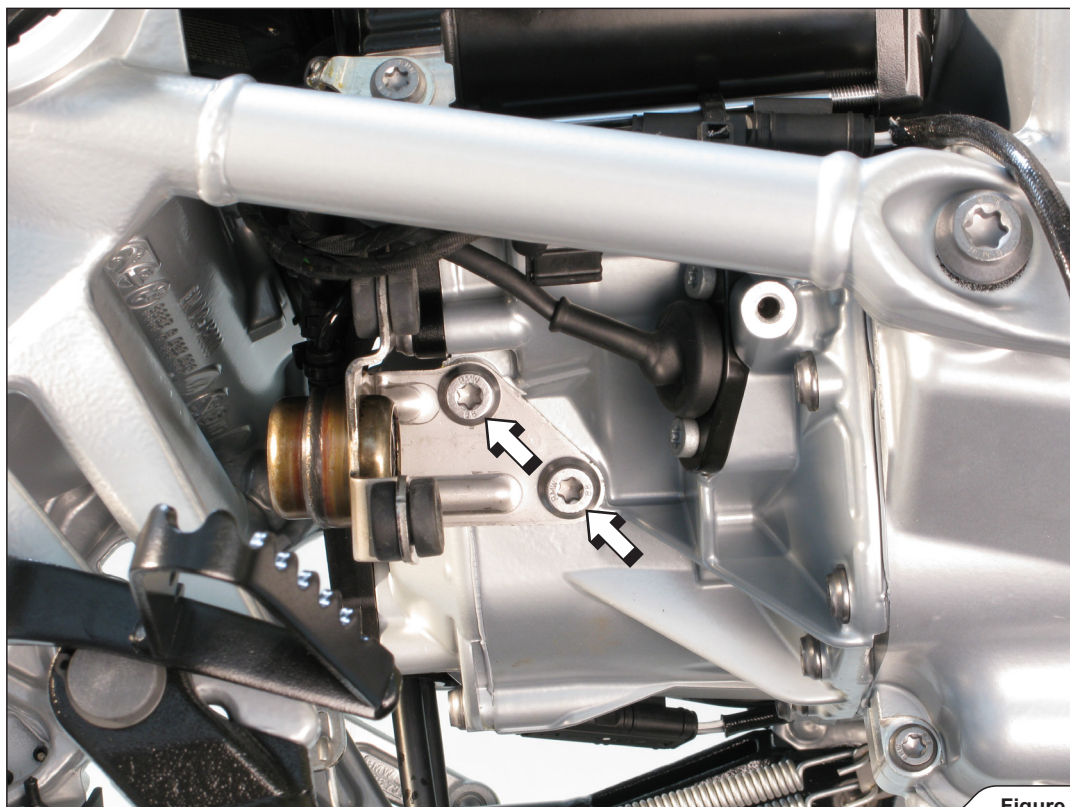

Figure 9
9. Unscrew the marked bolts and remove the header's rubber bracket off the motorcycle (**Figure 9**).